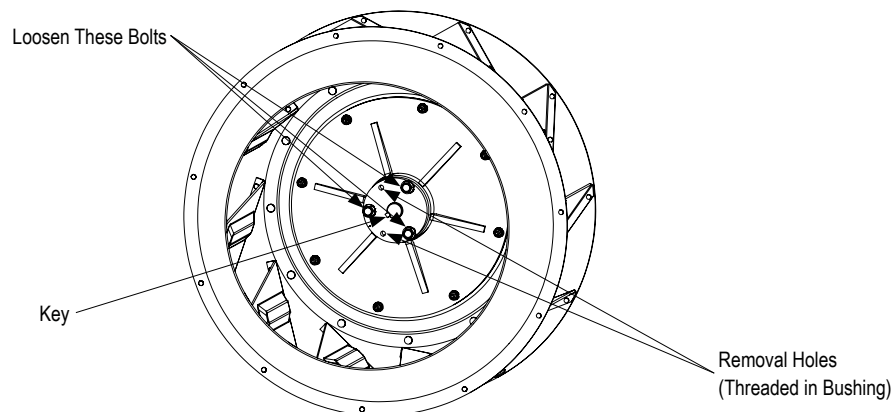

Figure 40 - Wheel Hub Size 245 to 542
2. Loosen & remove the bolts from the center of the hub (refer to Figure 40).